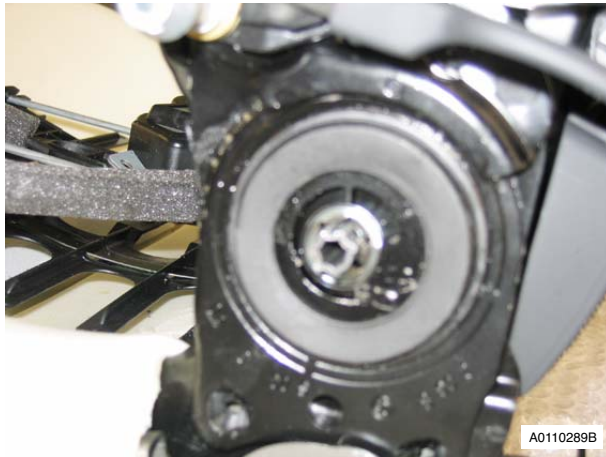

Figure 3
- Remove clip from adjust rod and pull through to clear motor (see Figure 3).